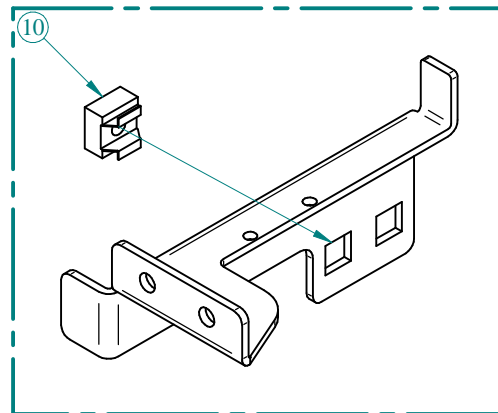

FIG. 2
2. Pre-assemble mounting brackets. (Fig. 2)